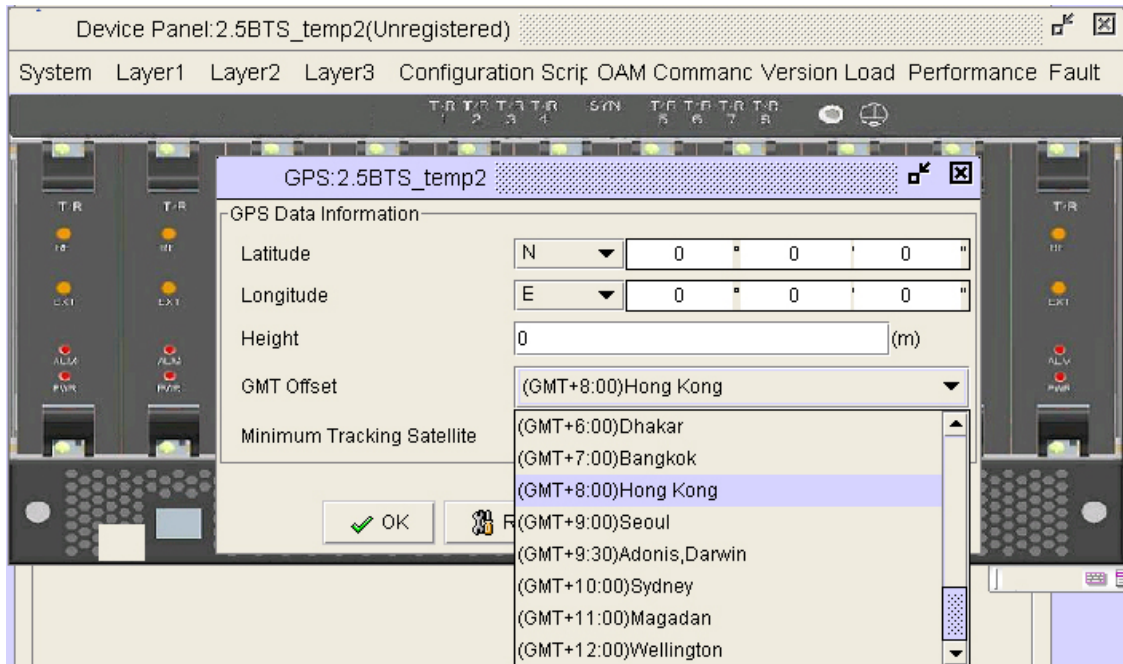

Fig 4-4: BTS configuration for GPS time
- Click [System Management-GPS Settings] and select the time zone of the base station in [GMT difference] as shown in Fig 4-4. Click [OK] and the configuration is successful.